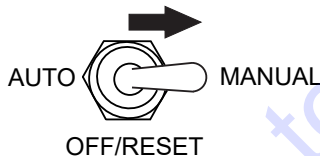

Figure 91. Auto-Off/Reset Switch
2. While keeping the **Hour Check Button** pressed, place the **Auto Off/Reset Manual Switch** (Figure 91) in the **MANUAL** position.